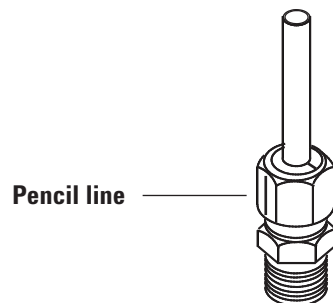

Figure 16. Marking the fitting
- 6 Mark the nut with a pencil line. See Figure 16.